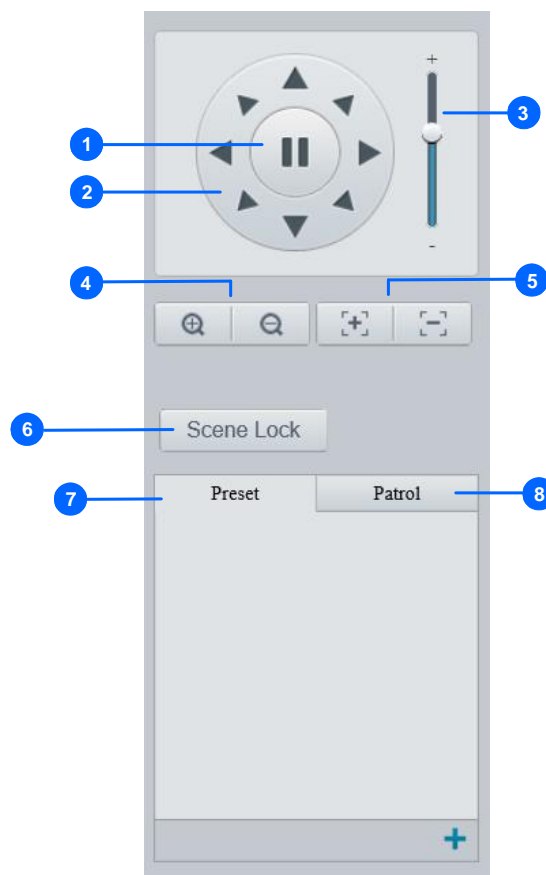

Figure 2-5
1. Click **Recording Download** (No. 2, Figure 2-5) on the right of the Playback window.